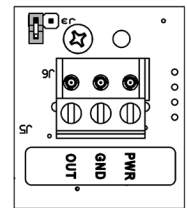

Fig. 8: J3 set for 0 to 5 VDC output
- C. Use the graph in Fig. 8 to determine dynamic range.